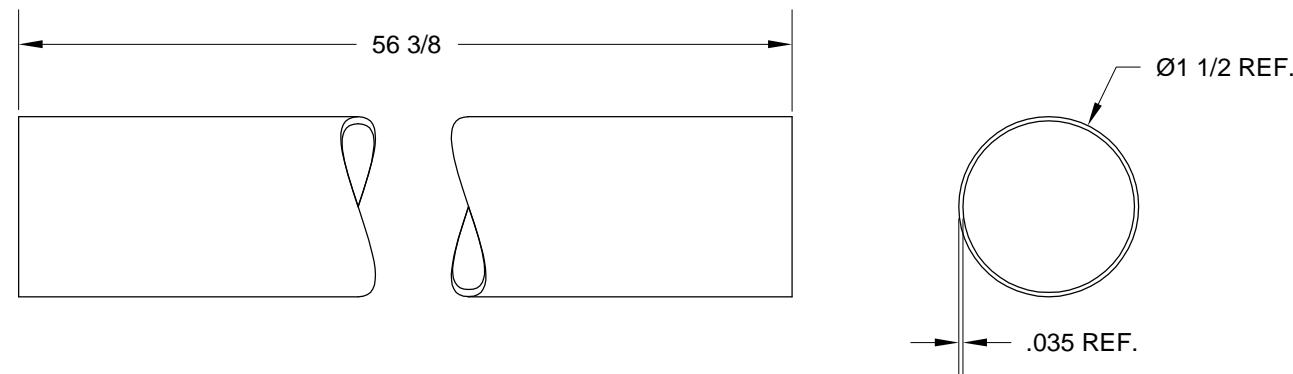

FIGURE 2:
Step 2: Fabricate one F-1090 Elevator Pushrod (Mid) by cutting one piece of AT6-035 X 1 1/2 to the length shown in Figure 2.
Step 3: Cut-out Page 39-11, Figure 2 and use it as a wraparound template for locating the rivet holes in both ends of the F-1090 Elevator Pushrod (Mid). Use clear tape to make the template into a ring and align it with the end of the pushrod. Center-punch the "cross hairs" in the wraparound template. Remove the template and use a #40 drill to make six pilot holes in each end of the pushrod. Deburr the hole edges on the inside of the pushrod tube.